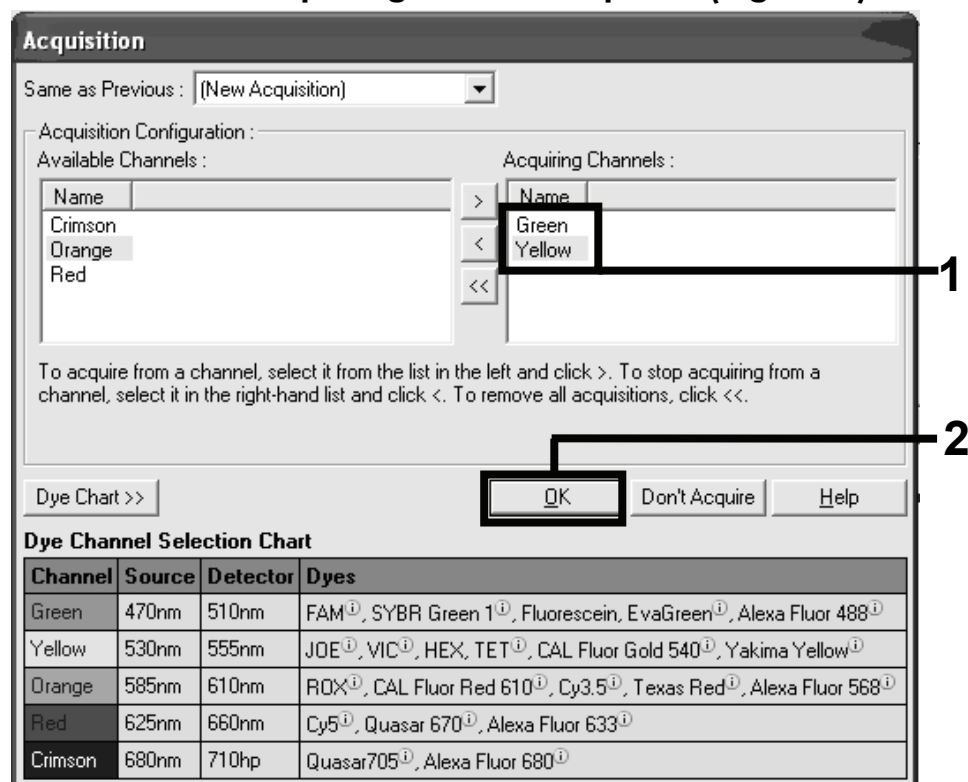

Figure 8. Acquiring at cycling step of 60°C.
17. In the “Available Channels” panel, select the “Yellow” and “Green” channels to acquire by highlighting them and then click “>” to transfer them to the “Acquiring Channels” panel (Figure 8).